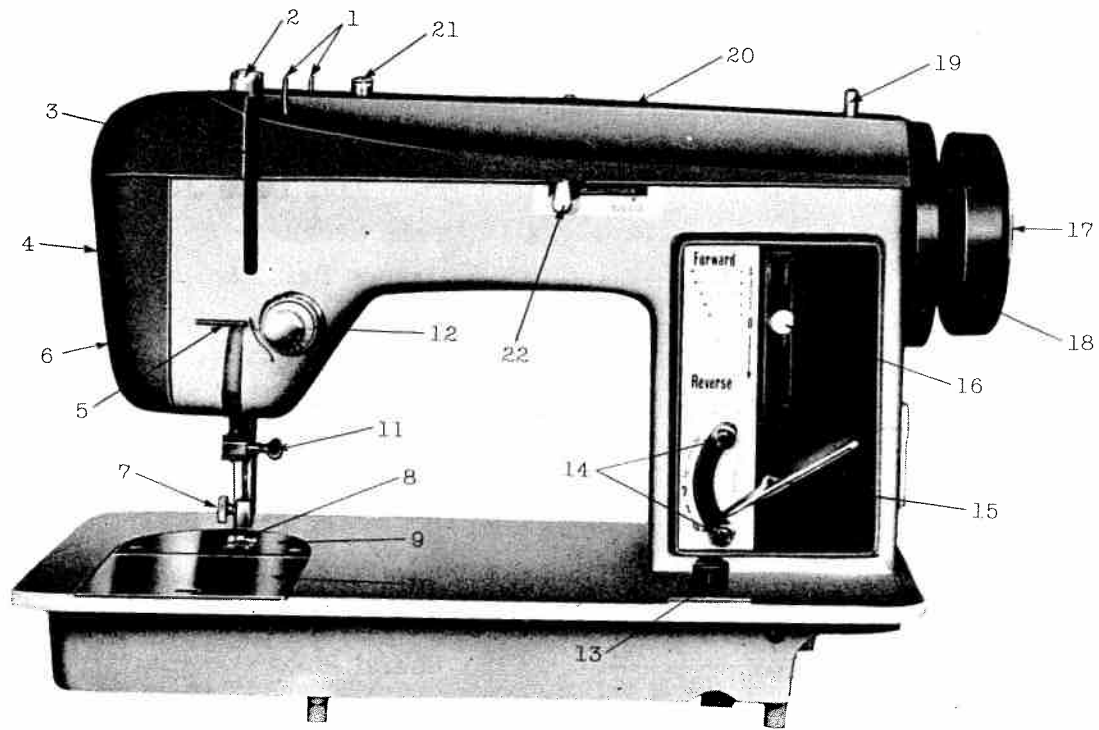
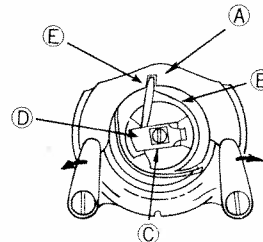

Fig. 1
Fig. 10
Open cover plate in front of the needle. (See 9 Fig. 1). Hold the bobbin case latch, (D), Fig. 10, between the thumb and forefinger of the left hand, with at least three inches of thread running from the top of the bobbin case to the right. Insert and center the bobbin case on the stud of the shuttle body, (C). Be sure the bobbin case finger, (E), is opposite shuttle race notch, (A). Press the bobbin case into the shuttle as far as possible until latch catches on the center post of shuttle. Then, release the bobbin case latch, (D). Press bobbin case again after latch has been released to make sure the bobbin case is locked securely in place. Close the cover plate.
Changing the foot and plate. To change presser foot (8, Fig.1), loosen thumb screw and remove zigzag foot. Replace with straight stitch foot (Fig.13) and tighten screw securely.
To change needle plate (10, Fig.1), slide the cover plate open, lift off the needle plate (See Fig.14), and replace with the straight stitch needle plate fitting the recess on the plate edge under the screw (1) and two holes of the plate on screws (2) on bed. Close the cover plate.